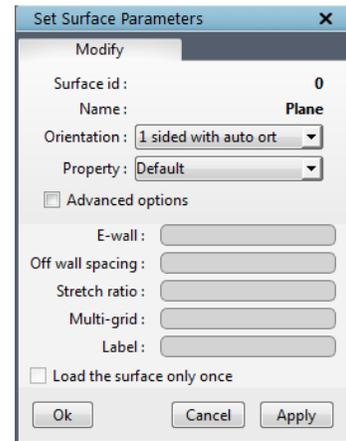

Figure 3.51: Surfaces Settings dialog box
**Settings** button under *Edit (Surface)* section of the Topology tab is clicked, Set Surface Parameters dialog box opens as shown in Figure 3.51. The surface id and name of the surface is shown first in the dialog box which helps as a reference while changing the parameters. For built-in surfaces, it displays the same name for all similar surfaces. i.e. for all cylinders, the name of the surface will be shown as 'Cylinder'.